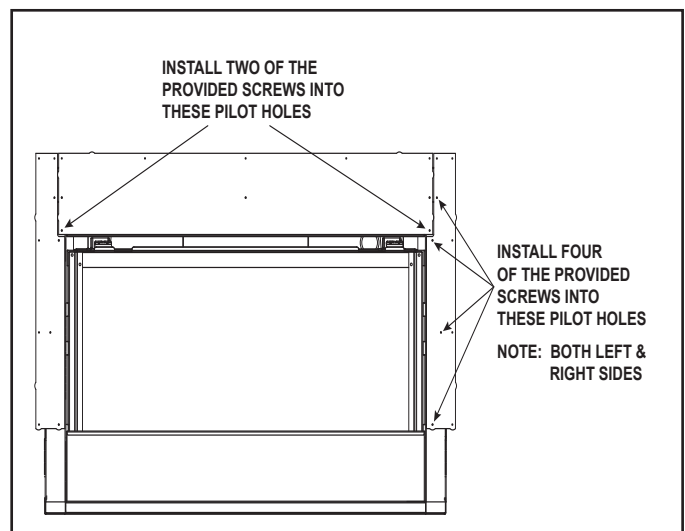

Figure 6.5 Proper Positioning, Leveling And Securing Of Appliance
4. Further secure the top non-combustible board by installing screws into the pilot holes located in the lower left and right corners as shown in Figure 6.5.
5. Install the left and right non-combustible components with four of the provided Phillips screws. See Figure 6.5.